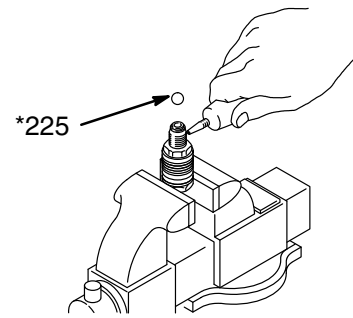

Fig. 25 02568
3. Apply one drop of Loctite to the threads. Place the ball (225*) on the piston valve. See Fig. 25.